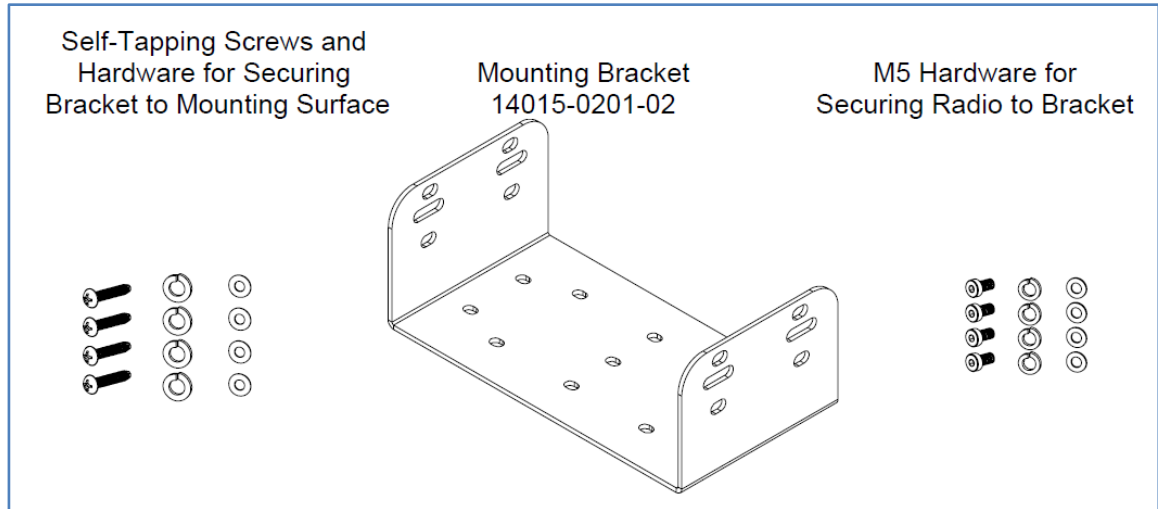
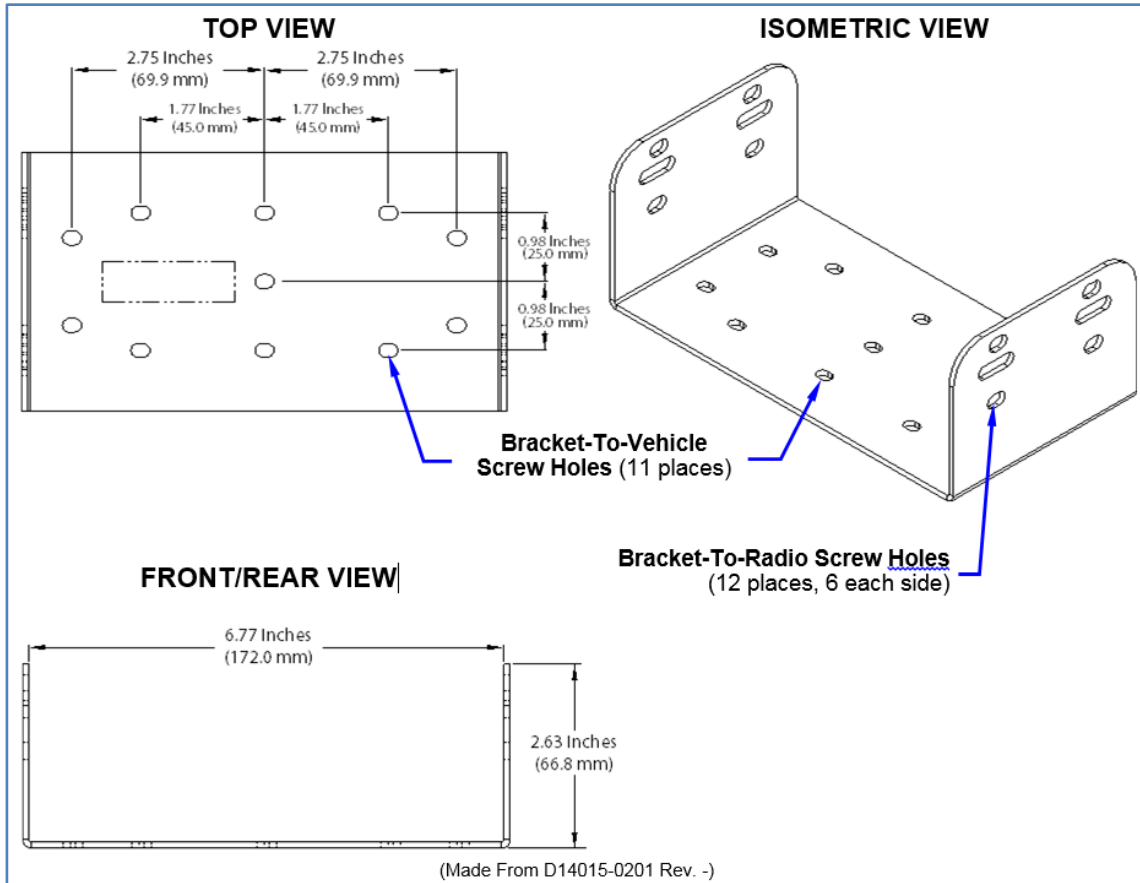

Figure 6-3: Mounting Bracket Kit 14015-0201-01
Figure 6-4: Mounting Bracket 14015-0201-02 Dimensions (Radio Not Shown)
The Mounting Bracket Kit, 14015-0201-01 [item 1 listed in Table 4-1 (page 27)], is used for both front and remote-mounted radios. The kit includes a heavy-gauge steel U-shaped mounting bracket and associated mounting hardware as shown in Figure 6-3. The bracket's dimensions are shown in Figure 6-4.
As shown in Figure 6-4, the bracket is both left-to-right and front-to-rear symmetrical. It has eleven (11) holes for securing it to a mounting surface. At least four (4) of these holes must be used to secure the bracket to the mounting surface. Four 1-inch-long #10-32 stainless-steel self-tapping screws are included in the Mounting Bracket Kit for this purpose.
6. Using the bracket as a template, and/or the dimensional information shown in Figure 6-4, mark and drill at least four (4) mounting holes into the mounting surface as required per the type of hardware used.
2. Secure the radio to the bracket using the four (4) M5 x 10 mm stainless-steel socket-head screws, flat washers, and lock washers.
Each screw should have a lock washer against the screw head and a flat washer against the mounting bracket. This hardware is included with the Mounting Bracket Kit as shown in Figure 6-3. The kit is item 1 listed in Table 4-1 (page 27).